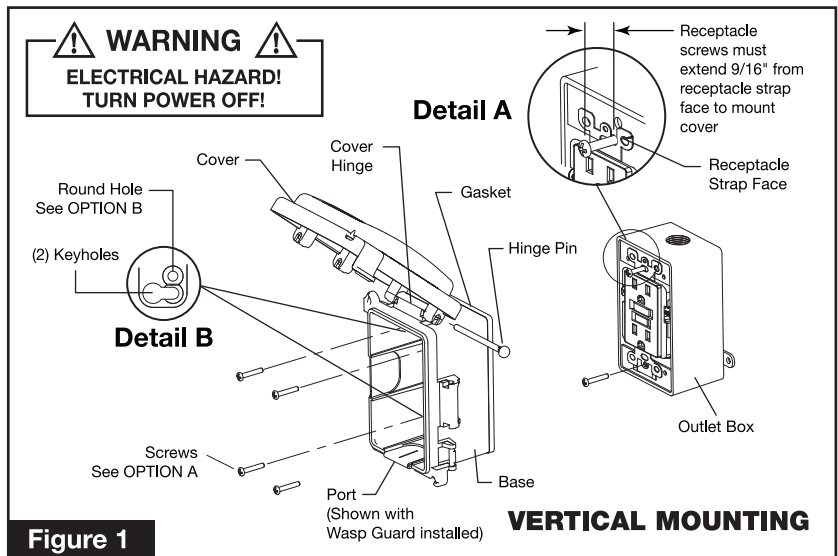
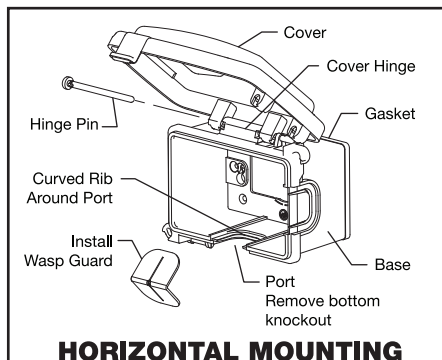
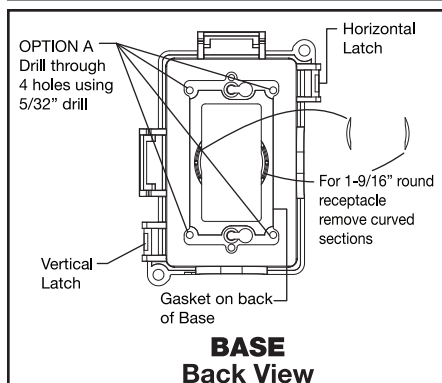

Figure 1
Figure 2
Figure 4
- INSTALL WASP GUARD.** Determine desired mounting (Figures 1 & 2). Remove (break-out) knockout from bottom PORT of base using pliers. Remove protective backing from adhesive side of rubber WASP GUARD. Position and place adhesive side on outside of curved rib in open PORT. Carefully fold WASP GUARD along top surface and secure to inside of curved rib in open PORT (see Figure 1, 2 & 3).
Vertical Mounting (Figure 1) or Horizontal Mounting (Figure 2).
NOTE: Position BASE with COVER HINGE on top and open PORT on bottom. Loosen receptacle screws 9/16" from receptacle strap (see Figure 1, Detail A). Place BASE keyholes over receptacle screws (Figure 1, Detail B). Make certain gasket overlaps box edges and tighten screws to secure BASE.
Verify receptacle is centered and securely fastened to box. Drill out (4) pre-marked holes in BASE using 5/32" diameter drill (Figure 4). Make certain gasket overlaps box edges. Insert (4) furnished 3/4" long countersink head screws and tighten to secure BASE (see Figure 1) (see steps 3 & 4).
Verify GFCI is securely fastened to box. Insert (2) screws (furnished) through top and bottom ROUND holes (Figure 1, Detail B) in BASE into threaded holes in GFCI. Make certain gasket overlaps box edges and tighten screws to secure BASE (see steps 3 & 4).